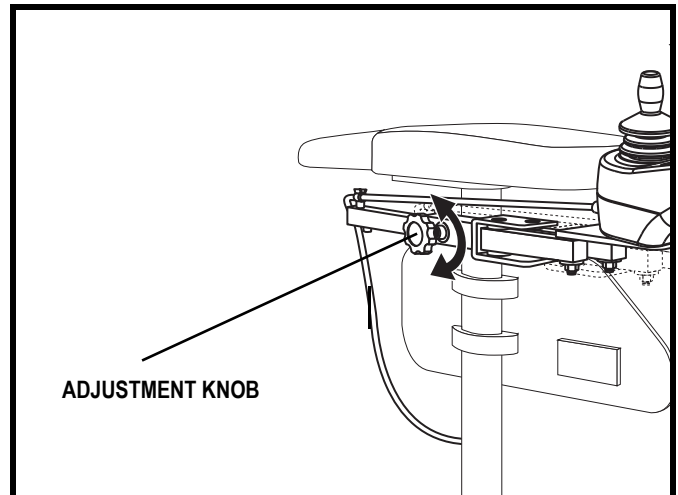

Figure 17. Armrest Top Height Adjustment
1. Loosen the adjustment knob by turning it anticlockwise. See **figure 17**.